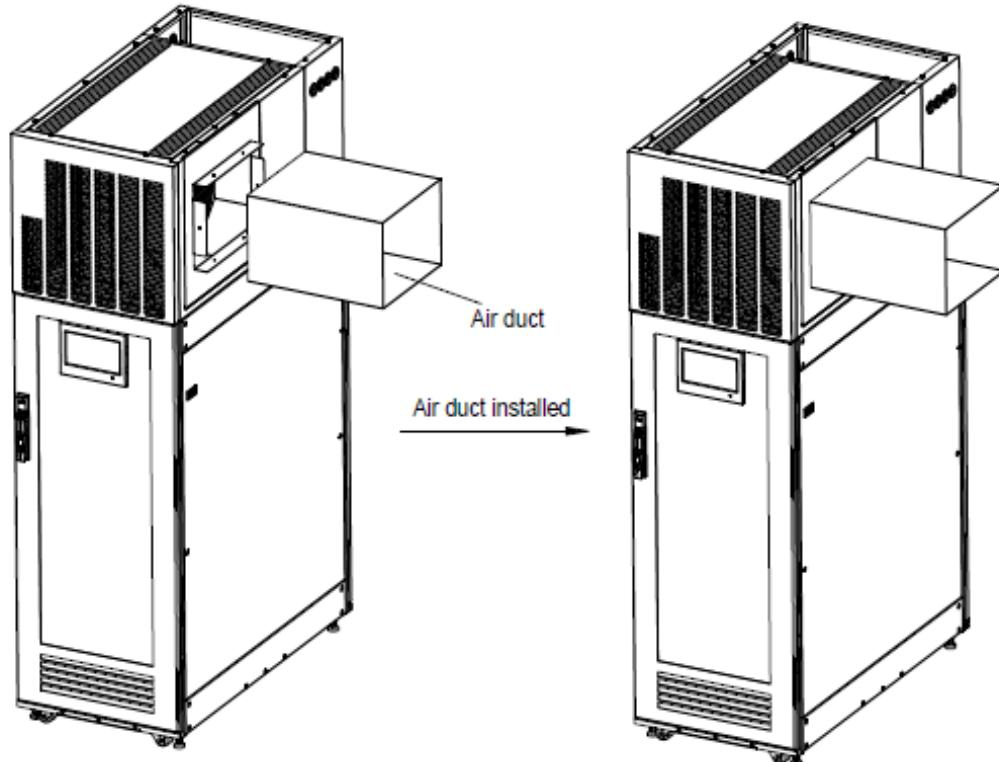

Figure 2-30 Installation of the air duct
4. Post installation of the air duct parts, the air duct must be installed. The connection between the air duct and the cabinet is shown in Figure 2-30: